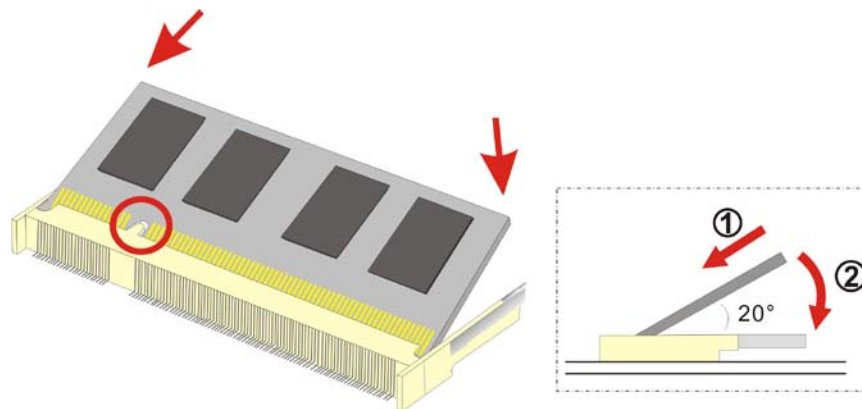

Figure 3-4: DDR3 SO-DIMM Module Installation
(Figure 3-4).
Step 6: Gently pull the spring retainer clips of the SO-DIMM socket out and push the rear of the DDR3 memory module down (Figure 3-4).